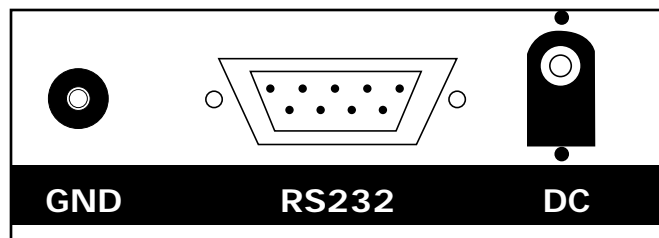

Figure 24
1. The RS-232 connector is accessible from the back of the meter (**Figure 24**).
2. Use numeric keys to set a time interval up to 23.59. Figure 24 shows a setting with a ten minute interval.